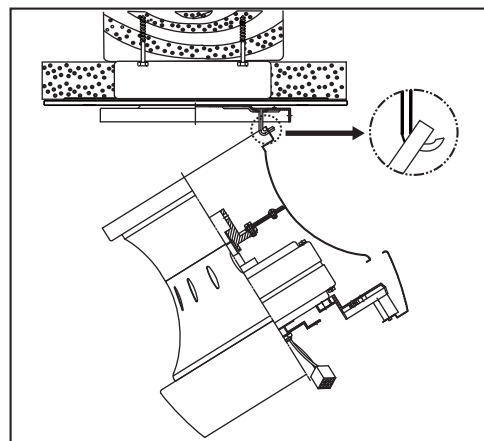

Figure 7
2. Lift fan into position by hanging the motor assembly onto the hook from the ceiling mounting plate allowing it to hang freely (Fig. 7).